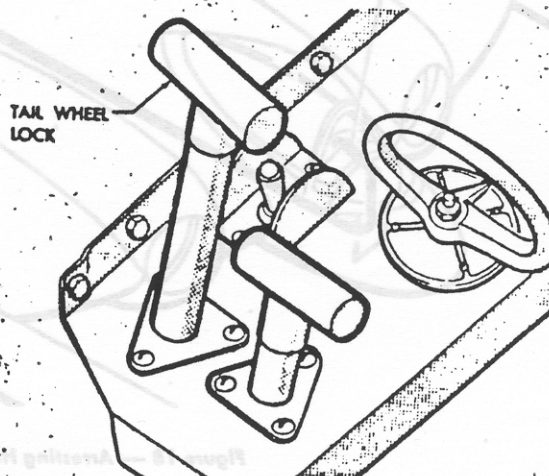

Figure 20 — Tail Wheel Lock Control
f. **TAIL WHEEL LOCK CONTROL.** - The tail wheel lock control is located on the aft end of the left hand shelf. (See figure 20.) It has two positions, "LOCKED" and "UNLOCKED."